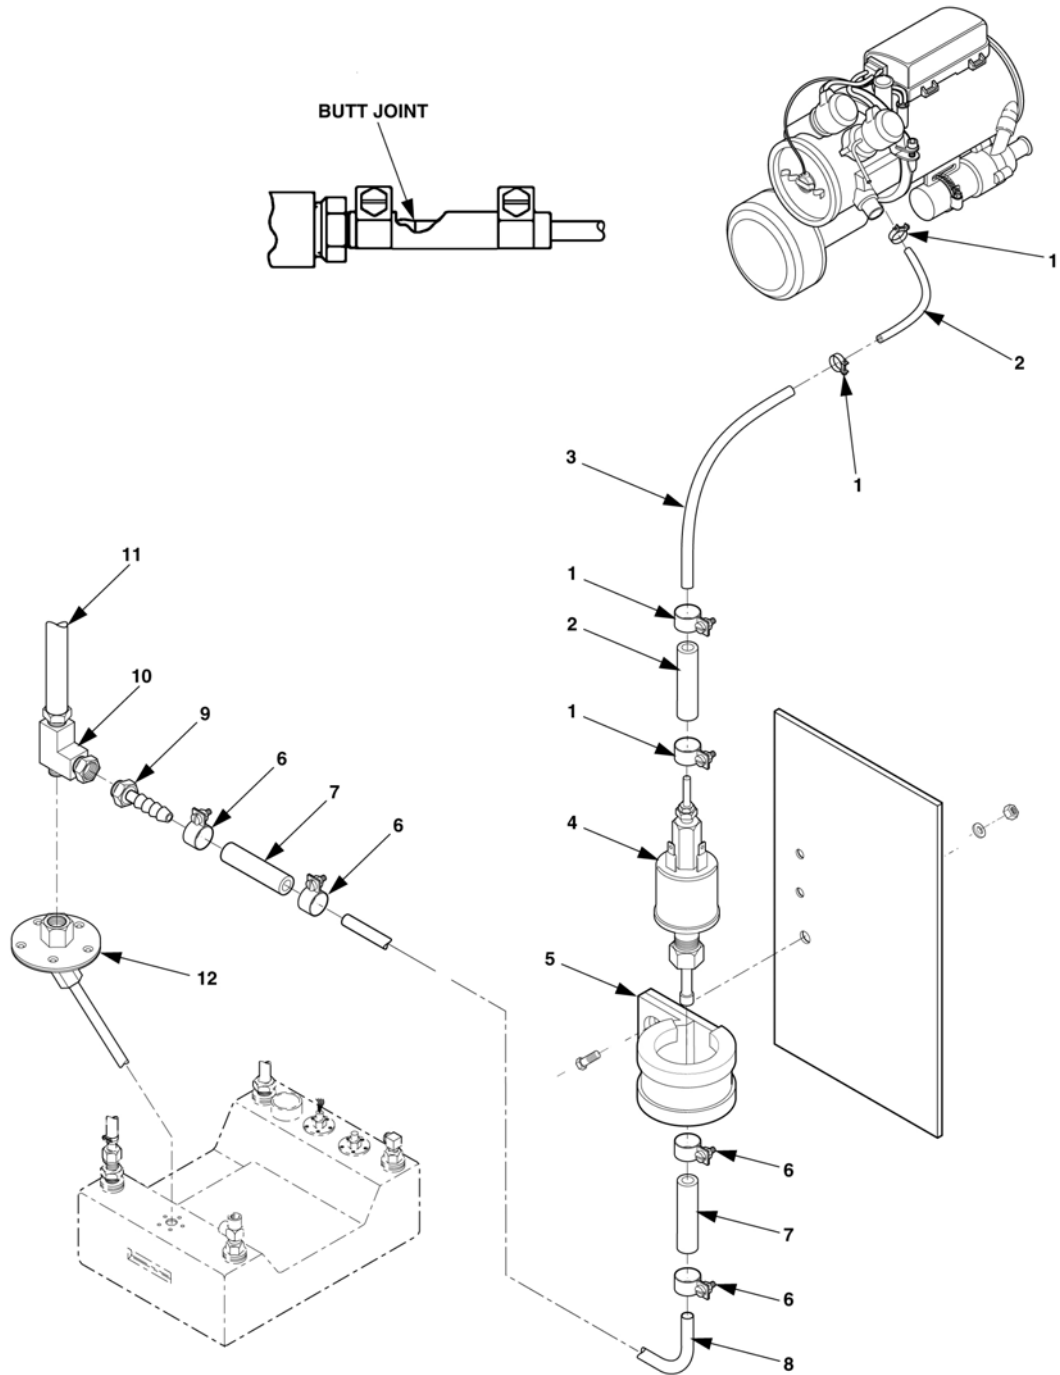

Figure 4-39. Fuel Pump and Lines Removal
8. Remove fuel pump, lines and hardware (1 thru 10), Figure 4-39, and replace fuel supply line (11) to fuel pickup (12). Be sure to use a suitable container to catch any fuel from lines. Replace hardware in output box.